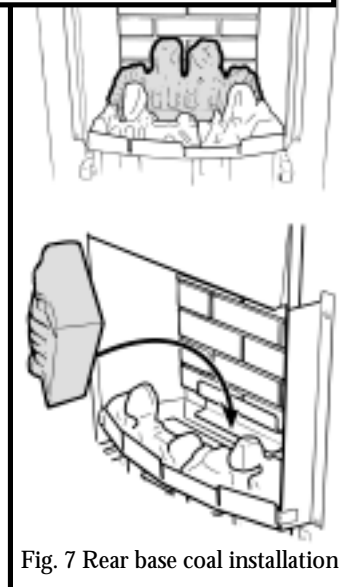

Fig. 7 Rear base coal installation
3. Place the rear base coal in the burner compartment behind the front coal. Its rear face should touch the rear ceramic wall (See figure 7).